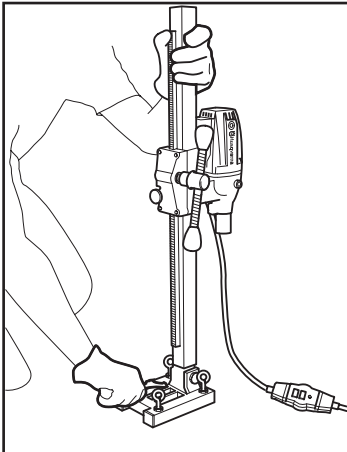

Fig. 3
1. Abra furos (15 mm) no chão ou na parede e aplique os parafusos de expansão, aparafuse a placa de base DMS 160A / DMS 160 AT, Fig. 3, e verifique minuciosamente se o expansor
1. Drill holes (15 mm) in the floor or walls and hammer in the expander screws. Screw the foot plate DMS 160A / DMS 160 AT into position, Fig 3, check carefully that the expander is correctly seated.